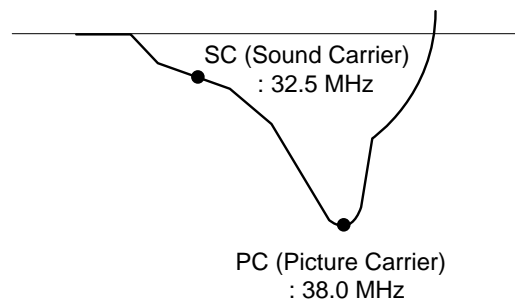

Fig. 2: Output waveform on Alignment Scope
- 2) Adjust VCO ADJ. coil(L501) so that the level of Picture Carrier (PC) may be at the lowest position as shown Fig. 2.